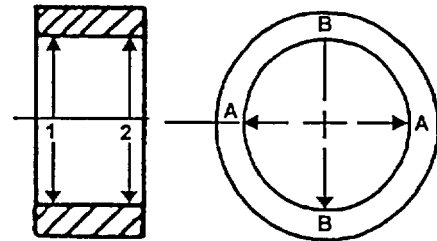

FIGURE 5-47. MEASUREMENT POINTS
c. Measure and record rod bushing (9) inside diameter. Measure at points 1 and 2 along axis A and B (see Figure 5-47). Measurements should be 0.9850 to 0.9856 inch (25.020 to 25.033 mm) If any measurement is outside these limits, replace rod bushing.